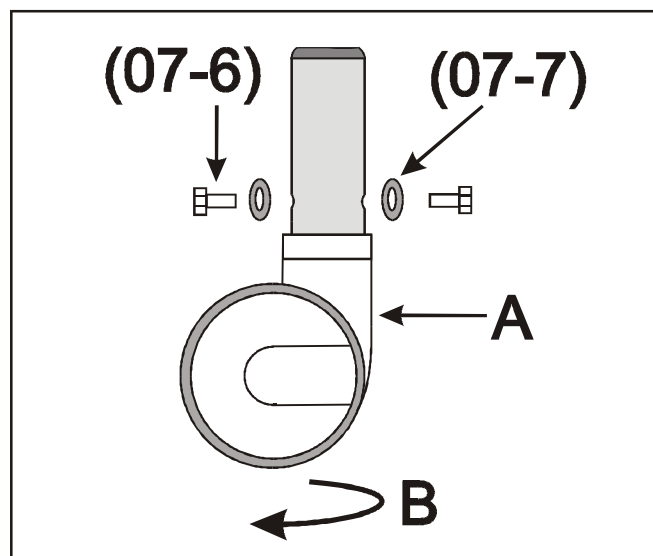

Figure 7-2 Castor adjustment
- b) Refer to Figure 7-2. To improve the brake operation, rotate the housing (A) clockwise as shown by the arrow (B); to improve the steering lock operation, rotate the housing in the opposite direction. Rotate the housing in 180° steps; do not over-adjust